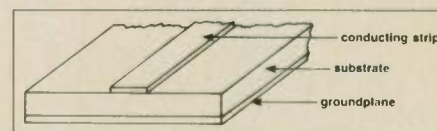

Figure 1. Geometry of microstrip.
To begin, it's important to review the fundamental principles of microstrip theory (1). Microstrip is just another form of transmission line which is used to carry electromagnetic waves between two points. As seen from Figure 1, the geometry of a microstrip transmission line consists of a thin conducting strip and a solid conducting ground plane separated by a dielectric substrate. Many different types of conducting and dielectric materials have been investigated but the most common are copper conductors and teflon or fiberglass substrates.